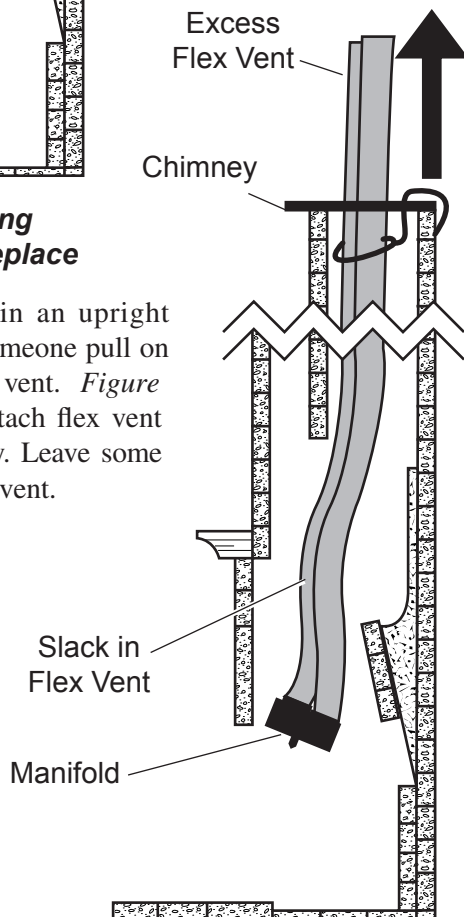

Figure 9 - Pulling On Excess Flex Vent
5. Place manifold in an upright position. Have someone pull on the excess flex vent. Figure 9. Temporarily attach flex vent to top of chimney. Leave some extra slack in flex vent.